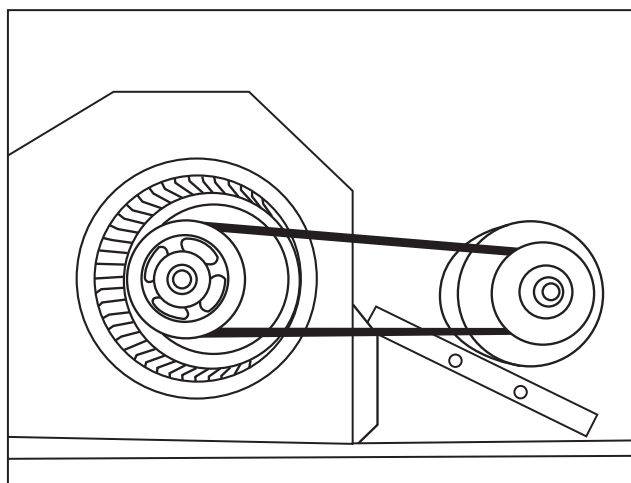

Fig. 5 - Belt Drive Motor Mounting
The supply fan system consists of a forward-curved centrifugal blower wheel on a solid shaft with two concentric type bearings, one on each side of the blower housing. A fixed-pitch driven pulley is attached to the fan shaft and an adjustable-pitch driver pulley is on the motor. The pulleys are connected using a "V" type belt. (See Fig. 5.)
2. Loosen belt by loosening fan motor mounting nuts. (See Fig. 5.)